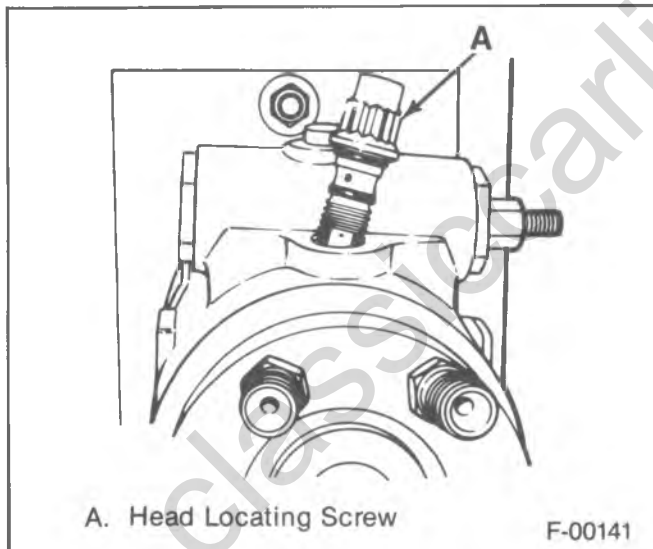

Figure 30—Head Locating Screw
9. Head locating screw and seal (figure 30).
5. Head locating screw (figure 30).